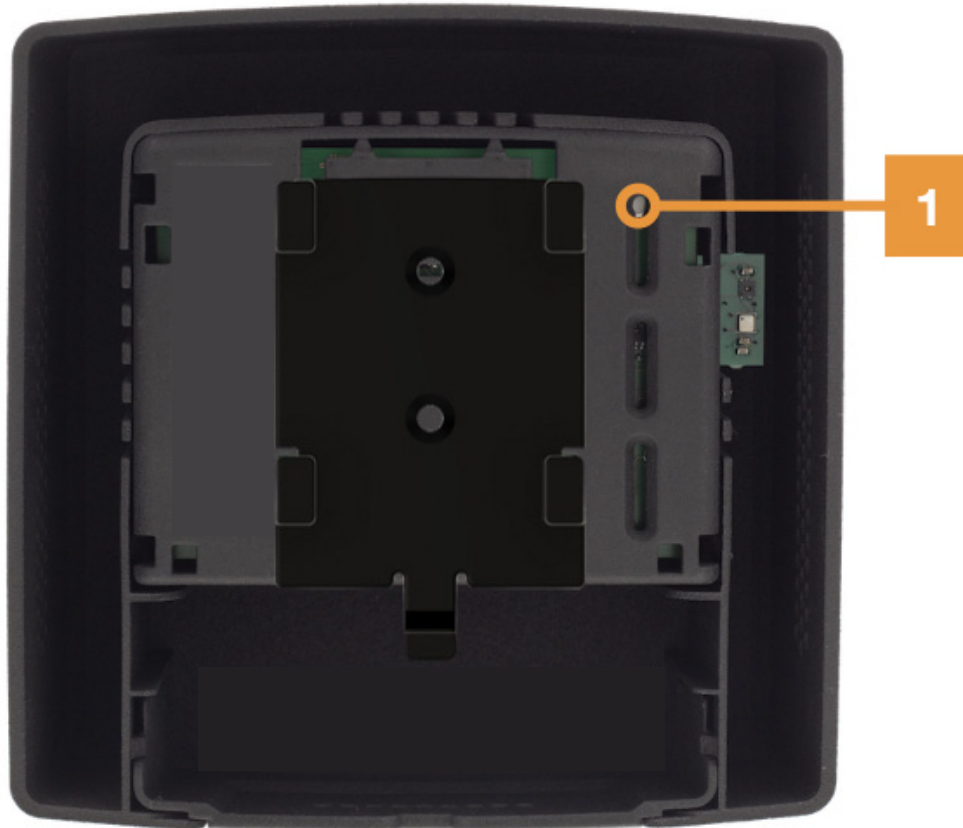

Figure 65: Temperature Scanner Rear View
- Step 3. As soon as the internal status LED is active (green), press the RESET button on the back of the device (See **Figure 65**). Keep the button pressed for 15 seconds until an acoustic feedback is heard